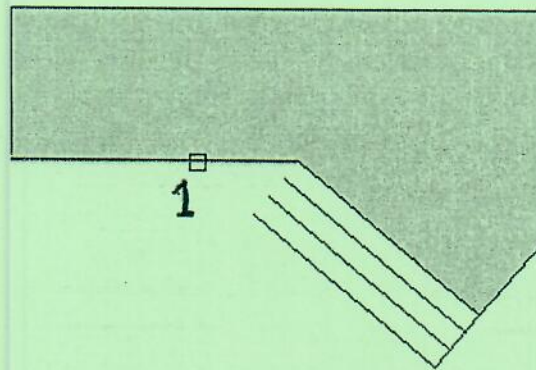

Figure 4 An outline of a building showing steps during drawing
- a) Figure 4 shows an outline of a drawing of a building. Explain how you would use the Extension tool of AutoCAD 2016 to extend the steps shown to the wall marked 1 [10 marks]